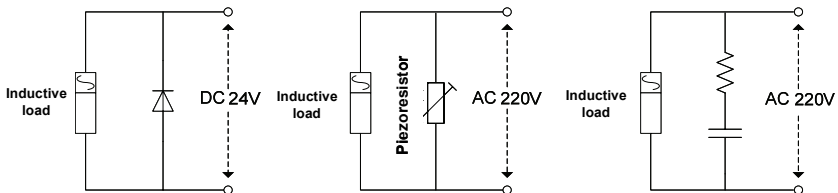

Figure 3-5 Application of inductive load surge suppressor
- ◆ When the driver is connected to the inductive load equipment (e.g. electromagnetic contactor, relay and solenoid valve), surge suppressor must be installed on the load equipment coil, as shown in Figure 3-5.